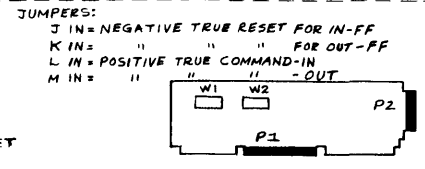
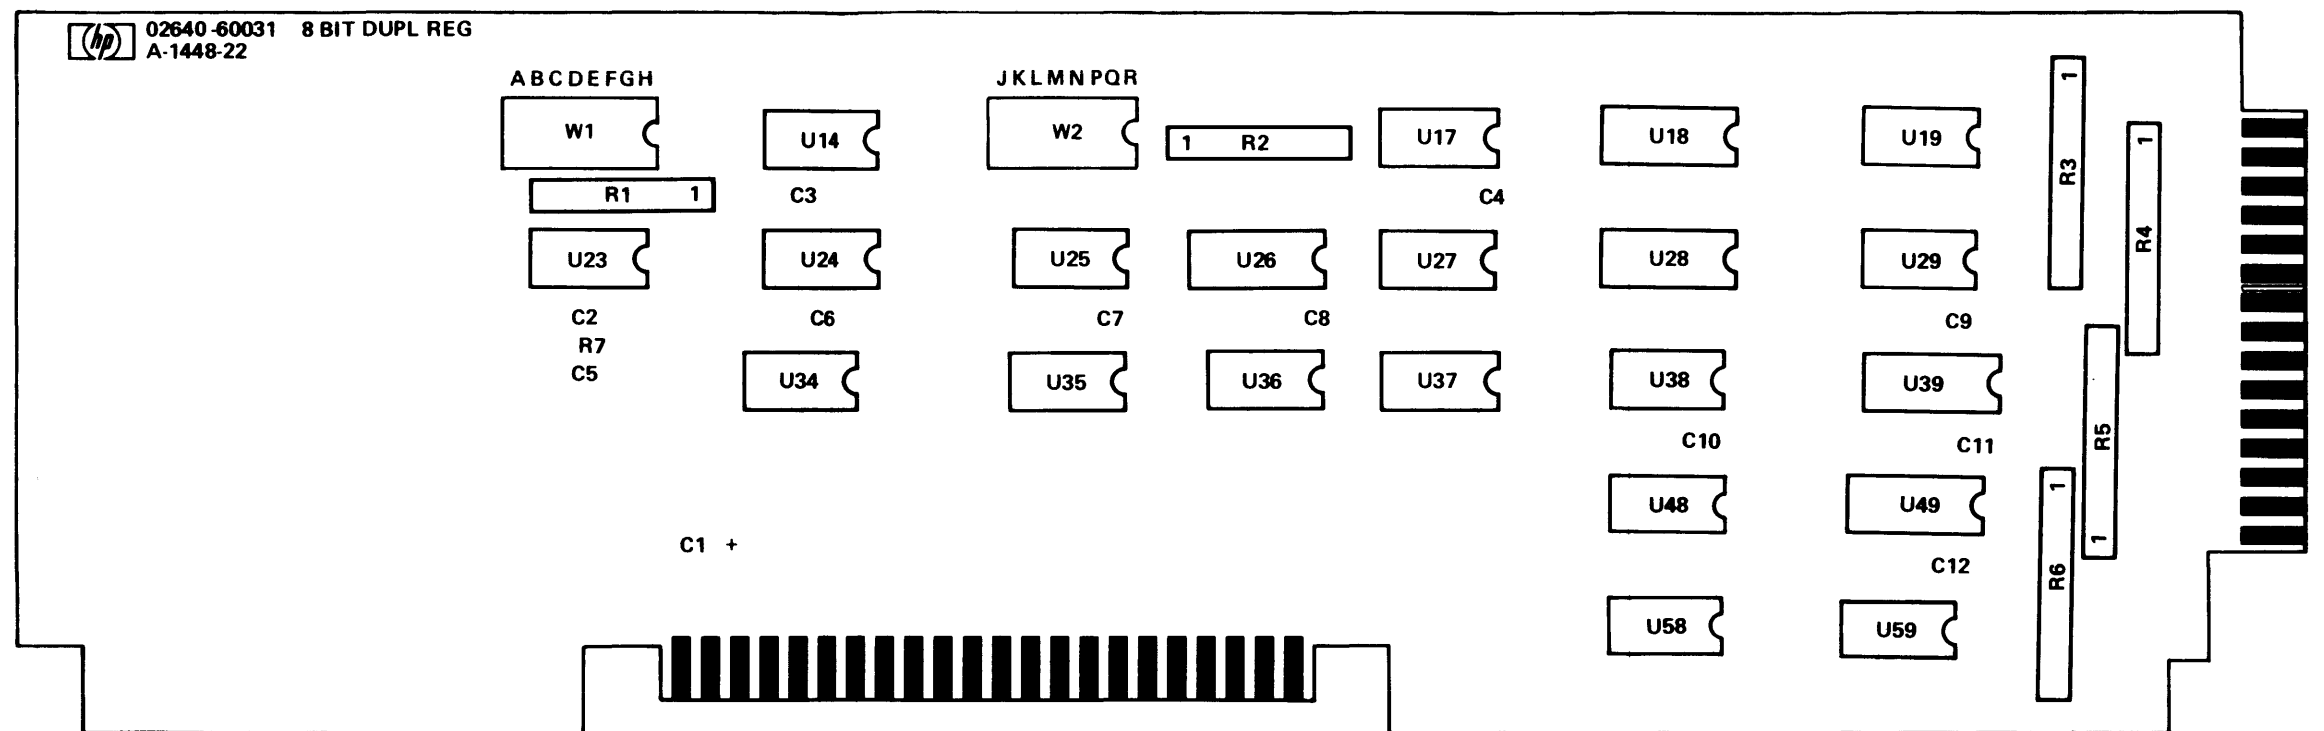

Figure 2
Figure 3
3.0 FUNCTIONAL DESCRIPTION. Refer to the block diagram (figure 1), schematic diagram (figure 2), component location diagram (figure 3), and parts lists (02640-60031, 02640-60116, and 02640-60135) located in the appendix.